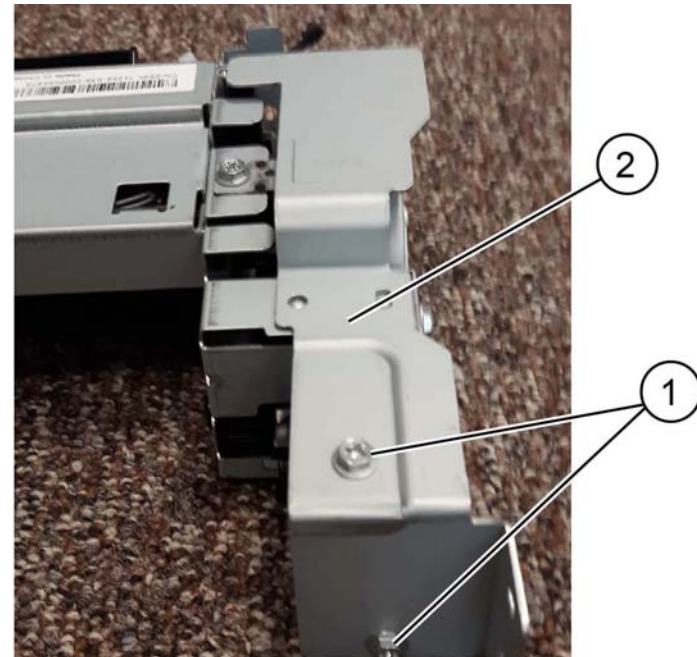

Figure 6 Feeder cover removal
9. Remove the feeder cover from the main tray 3 feeder, Figure 6.
- Remove two screws (1).
- Remove the feeder cover (2). Retain the cover for installation onto the new tray 3 feeder assembly.
Ensure that the feeder cover is installed onto the new tray 3 feeder assembly. Refer to Figure 6.